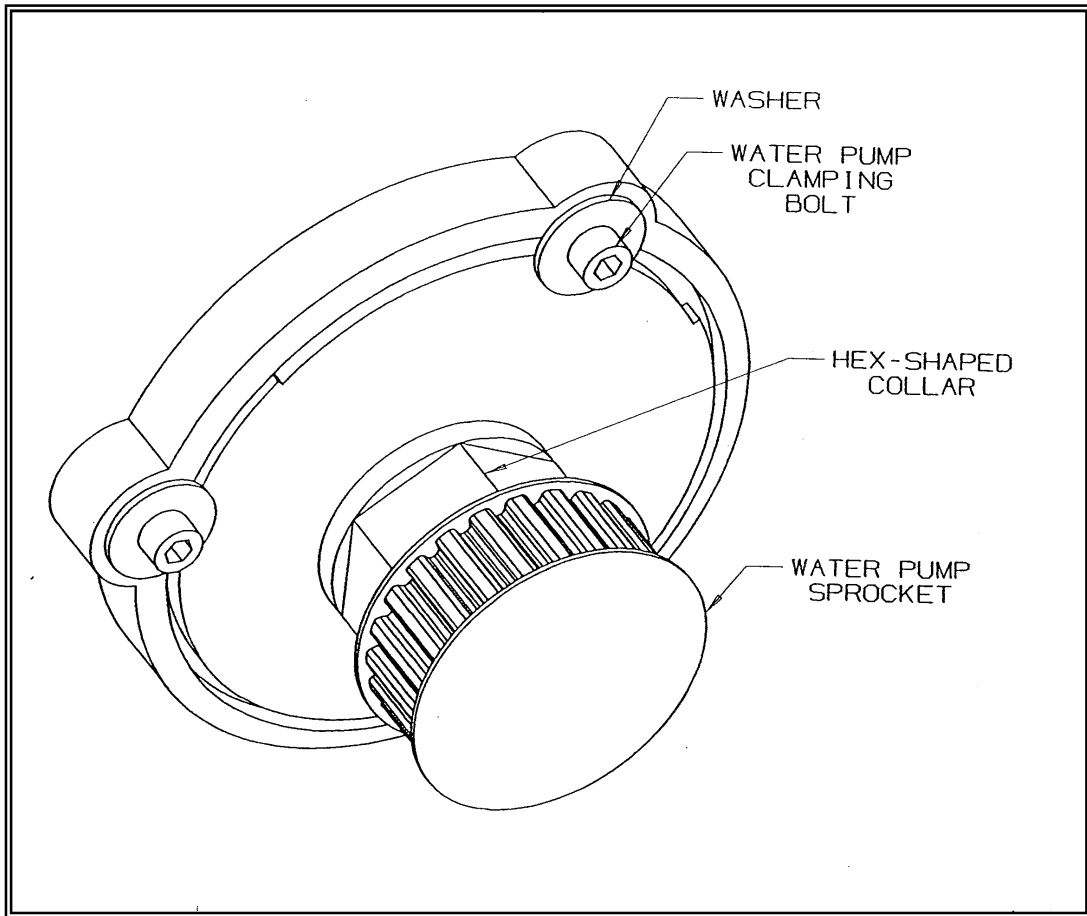

Figure 2: Water Pump Housing
3. Loosen the three *water pump clamping bolts* (See Figures 2 and 4) so that the water pump housing can be rotated freely using the installation tool shown in (Figure 3). It is advisable to follow the manufacturer's guideline for loosening water pump bolts, as this procedure may cause engine coolant to leak.
4. Rotate the water pump housing **COUNTERCLOCKWISE** (See Figure 4) with the *42mm wrench* (See Figure 3). The wrench should fit around the *hex-shaped collar* beneath the water pump sprocket (See Figure 2).
14. Loosen the clamping bolts around the water pump housing for its adjustment (See Figure2). Rotate the water pump housing in the appropriate direction to align the hole in the arm pointer with the hole in the aluminum bracket.